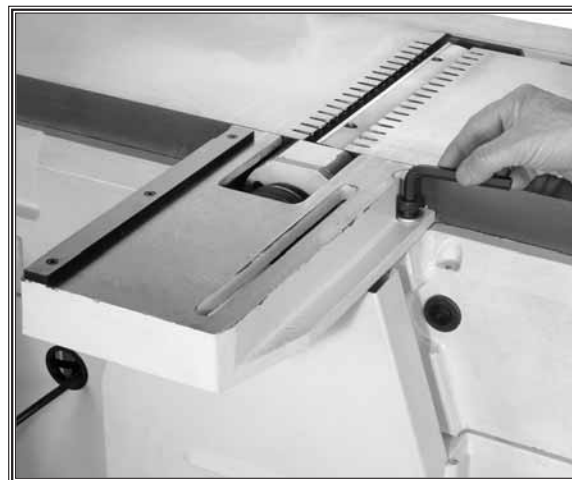

Figure 12. Installing fence bracket.
1. Align the mounting holes on the fence bracket and jointer, and fasten with the M12-1.75 x 30 cap screws, flat washers and lock washers as shown in **Figure 12**.